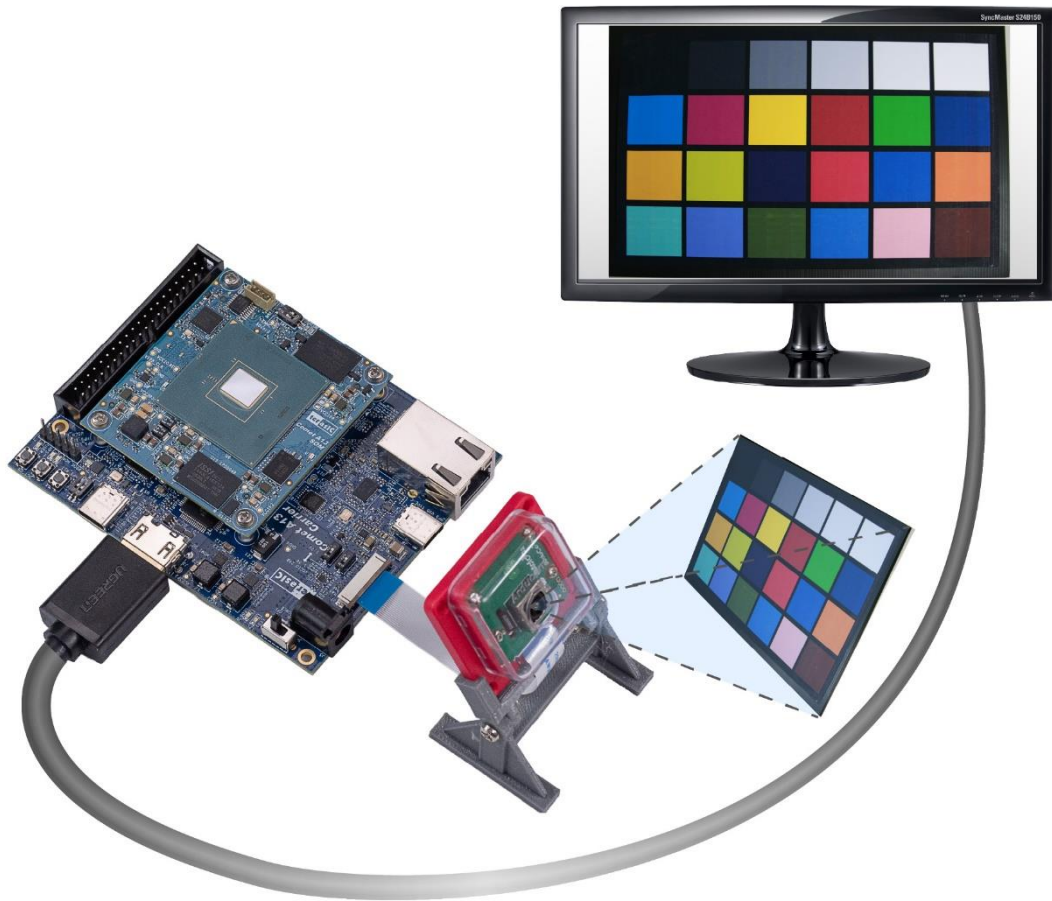

Figure 4-3 VVP_MIPI_CSI2_IMX519 demonstration setup for Comet A13 Kit
3. Connect the HDMI output port (J3) on the Carrier board to a HDMI monitor (See **Figure 4-3**).